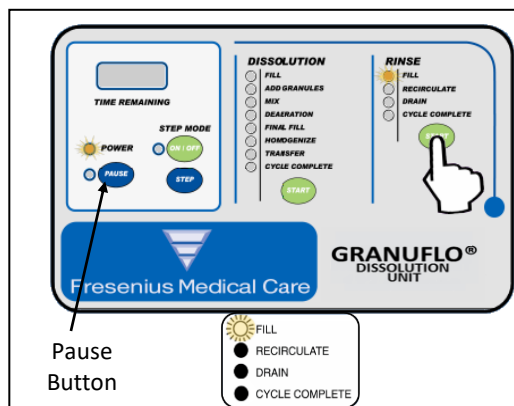

Figure 19
2. Turn the power switch ON and ensure that the water supply valve is OPEN then press the Rinse START button. The Fill Indicator LIGHT will illuminate indicating the RINSE CYCLE has started and the GranuFlo I Dissolution Unit is in the first FILL Operation (Figure 19).